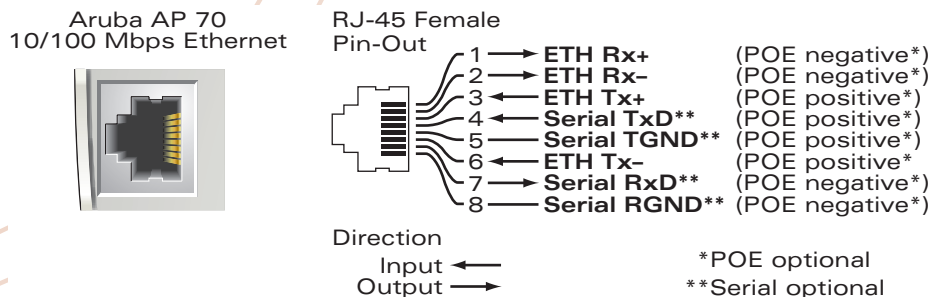

FIGURE A-1 Aruba 70 FE Port>>The AP can be powered over pins 1/2, 3/6, 4/5, and 7/8.)- replace graphic<<
The 10/100 Mbps Ethernet (FE) port is located on the right-hand side of the Aruba 70 and has an RJ-45 female connector. The port pin-outs are shown in Figure A-1 :